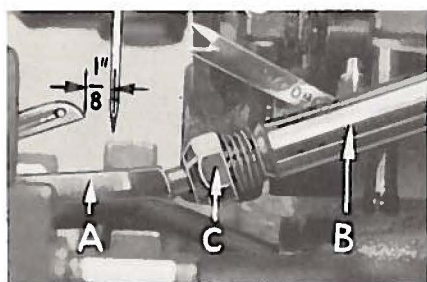

Fig. 4
At this point, insert lower looper (A, Fig. 4) into bar (B). With lower looper at left end of its stroke, set looper point  $\frac{1}{8}$  inch from center of needle (Fig. 4) using looper gauge No. 21225-1/8. Do not have lower looper deflecting needle. Tighten nut (C). Now assemble differential (front) feed dog.